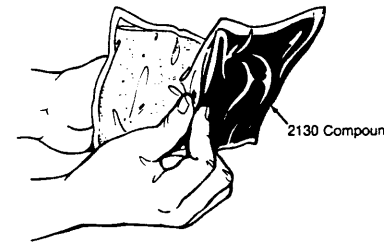

Figure 7
- Firmly grasp each flat side of the Unipak Container near the center barrier; at the same time pull sides of barrier apart and roll sides of thumbs through barrier. Break the barrier all the way across to the side seals (Figure 7).